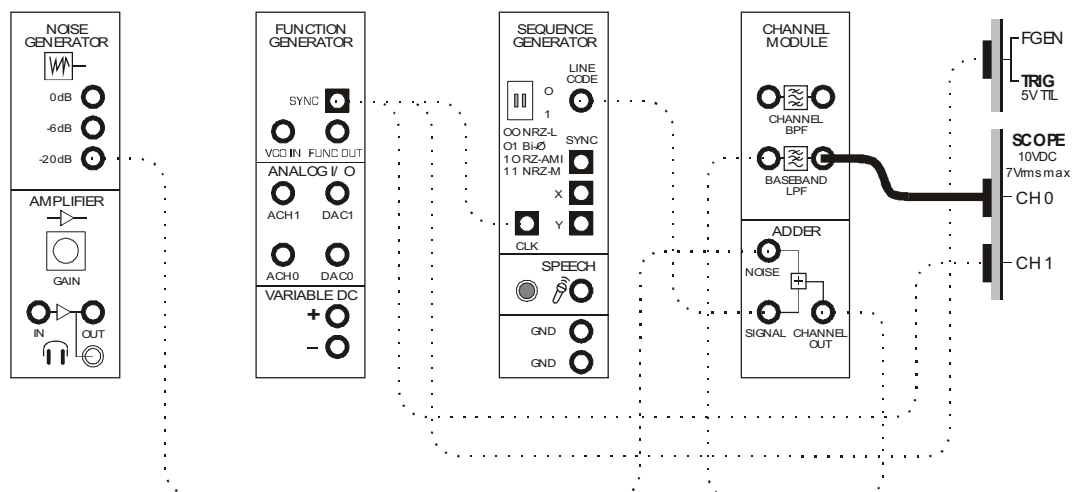

Figure 4
11. Modify the set-up as shown in Figure 4 below.